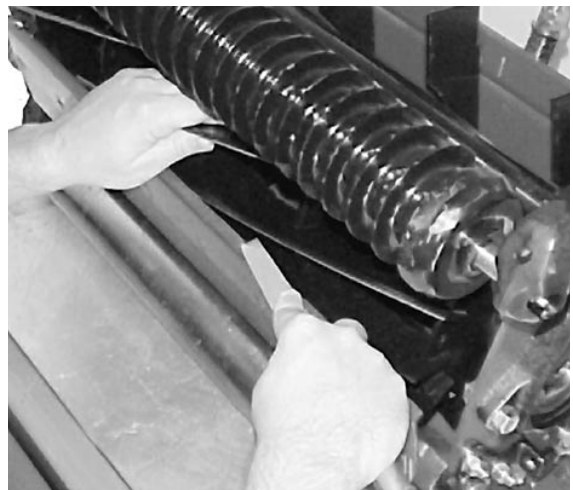

Figure 58
12. When the cutting unit is adequately sharpened, a burr will form on the front edge of the knife. Using a file, carefully remove the burr without dulling the cutting edge (Fig. 58).